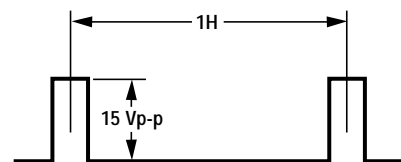

Figure 2.
11. Adjust Screen Control (T402) to obtain 15 Vp-p from black to white level. (See Figure 2.)